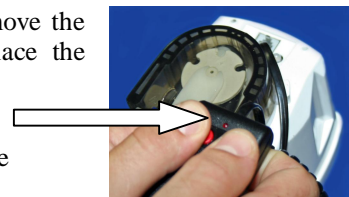

**Figure 3. Programmer Installation**
Step 2: Remove the cover and connect the Two Button Programmer as shown in Figure 3.